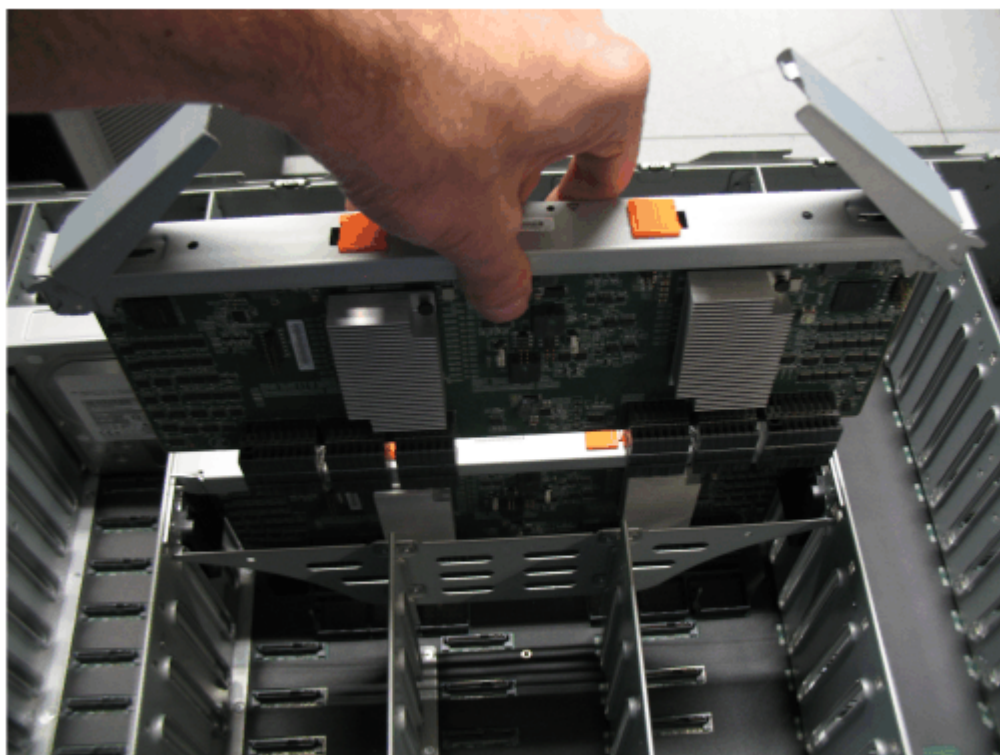

Figure 104. Remove the secondary expander module
4. Lift the secondary expander module carefully out of the enclosure, as shown in Figure 104 on page 94.